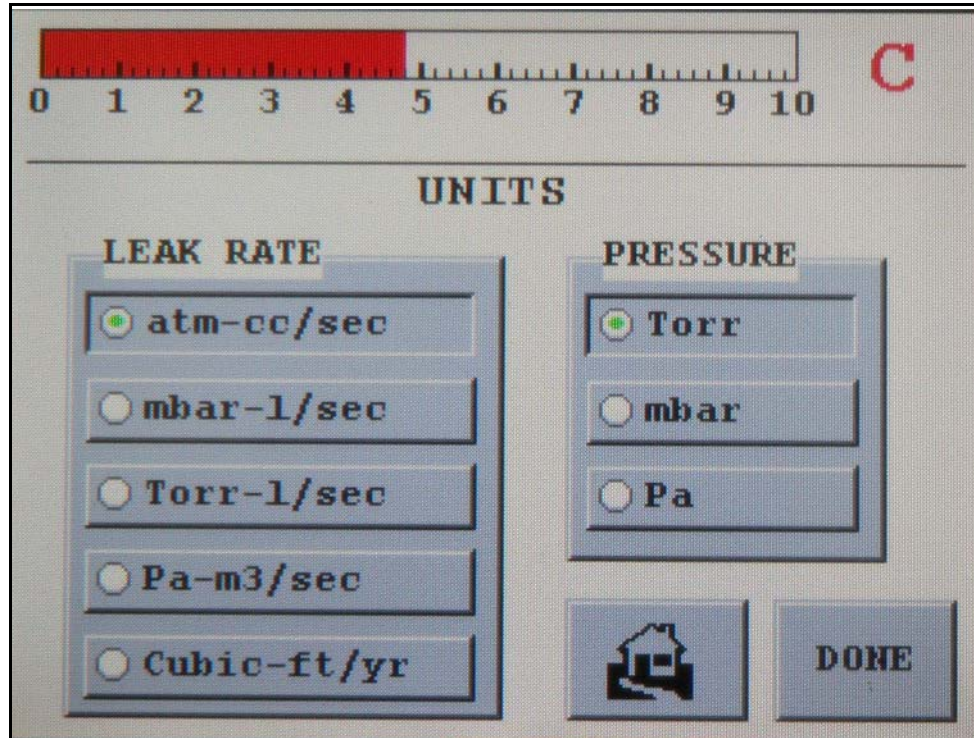

Figure 2-20 Units
- Press **Units** on the Set-Up screen and the Units screen appears (Figure 2-20).